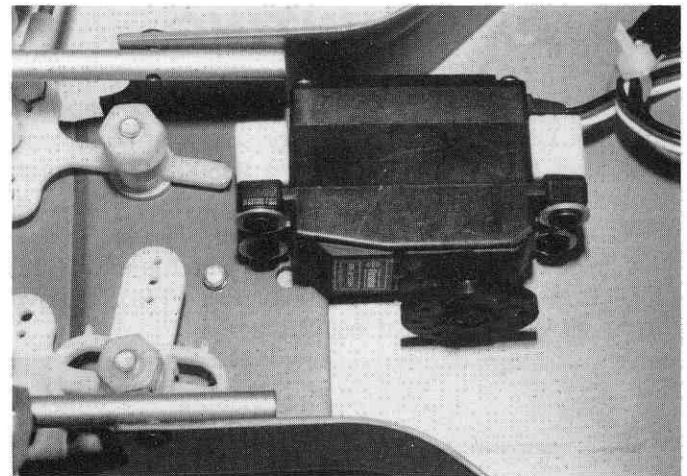

Fig. 119
□ **Fig. 119 & 120** Install the servo to chassis with the two #6292 4/40 x 3/8 FHSS Allen screws shown in drawing below. You'll have to install two #4 flat washers between the rear mount and chassis for proper alignment. Fig. 121a shows the proper holes to use with small servos.